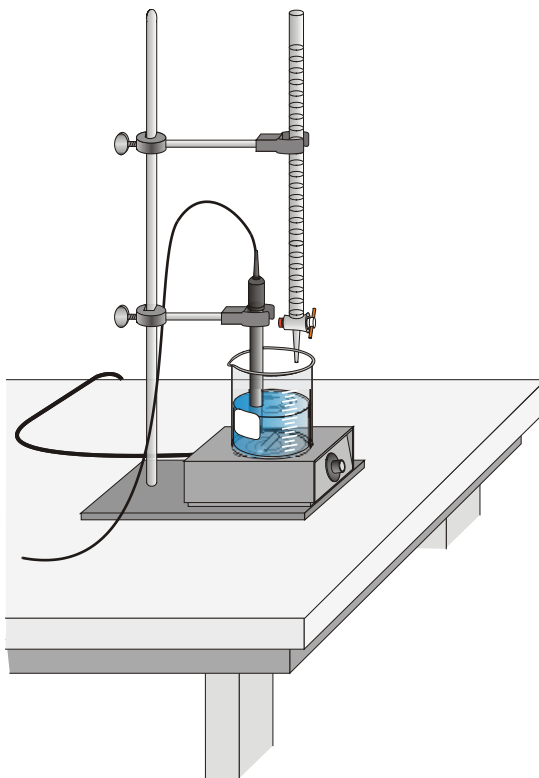

Figure 2
6. Use a utility clamp to suspend a pH Sensor on a ring stand as shown in Figure 2. Position the pH Sensor in the HCl solution and adjust its position so that it is not struck by the stirring bar.
7. Obtain a 50 mL buret and rinse the buret with a few mL of the ~ 0.1 M NaOH solution. Dispose of the rinse solution as directed by your teacher. Use a utility clamp to attach the buret to the ring stand as shown in Figure 2. Fill the buret a little above the 0.00 mL level of the buret with ~ 0.1 M NaOH solution. Drain a small amount of NaOH solution so it fills the buret tip *and* leaves the NaOH at the 0.00 mL level of the buret. Record the precise concentration of the NaOH solution in your data table. **CAUTION:** *Sodium hydroxide solution is caustic. Avoid spilling it on your skin or clothing.*